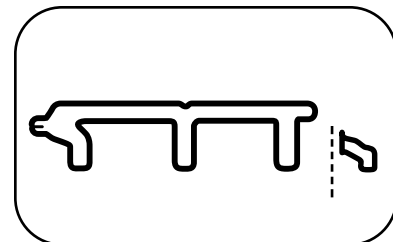

Fig. 8
- Cut the "heel" off the "groove" of the replacement TimberTech plank (Fig. 8).